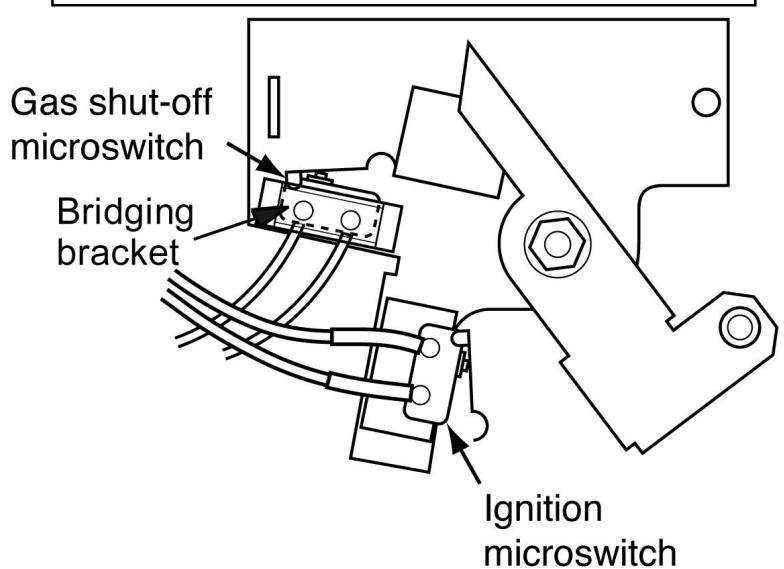

Figure 35. Microswitches
3. Disconnect the leads from the ignition microswitch (The lower of the two microswitches - See figure 35).
4. Detach the bridging bracket, microswitch assembly by removing two screws (See figure 35).